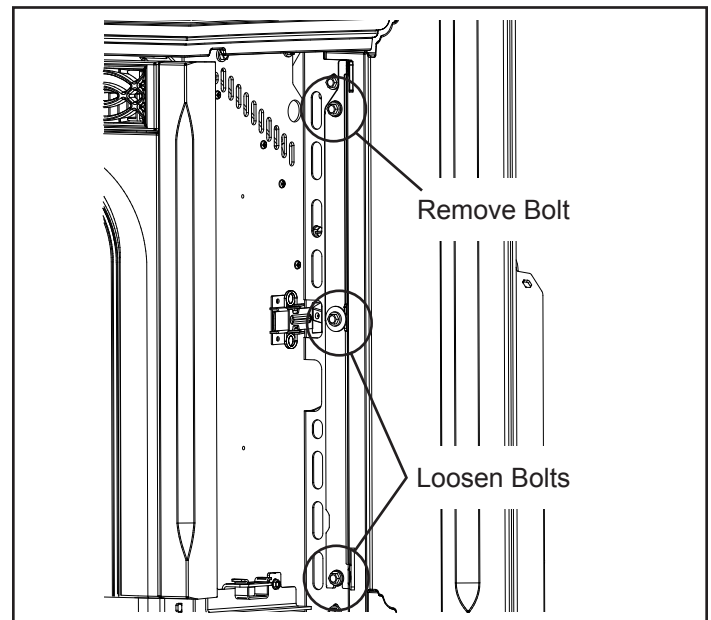

Figure 5.16
Remove the top bolt, loosen the (2) bottom bolts and remove the top hinge. Figure 5.16.